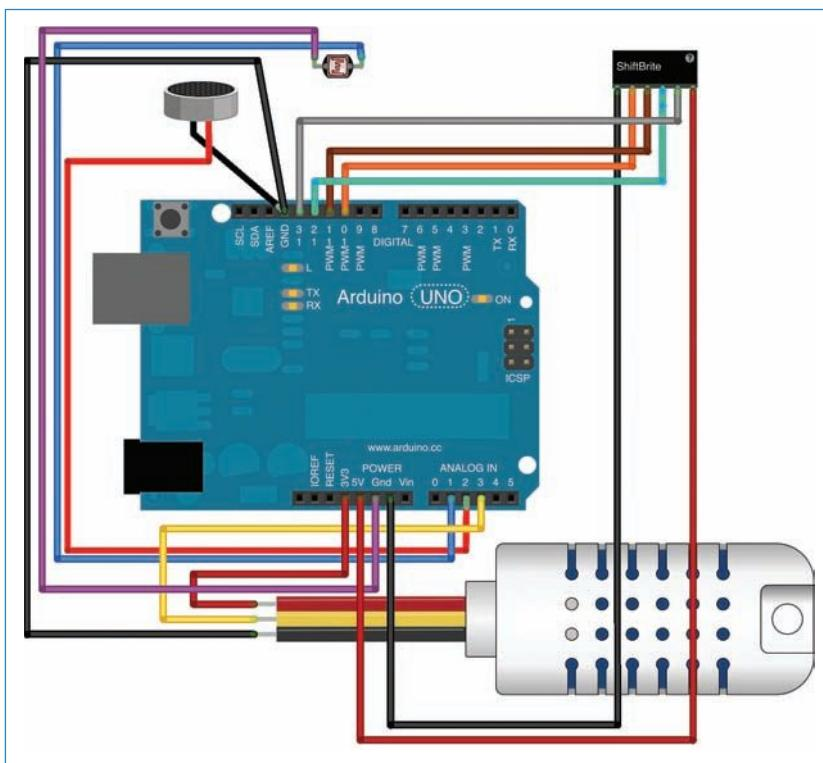

FIGURE 6.20 That's a lot of wires!
7. Wire up the sensors—See Figure 6.20. The light sensor plugs into analog port 1 and GND. The temperature sensor plugs into 3V3 and analog port 3, and shares a ground with the sound sensor, which plugs into analog port 2. It's not too tricky!